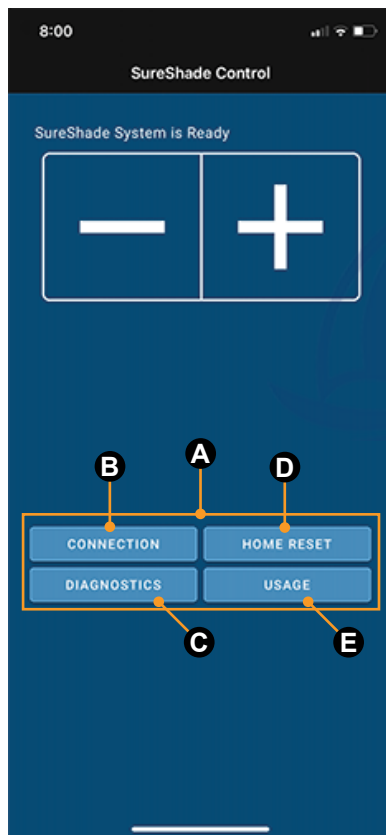

Fig.38
2. The SureShade system control screen with ATF-SG shade control buttons will appear (Fig. 38).